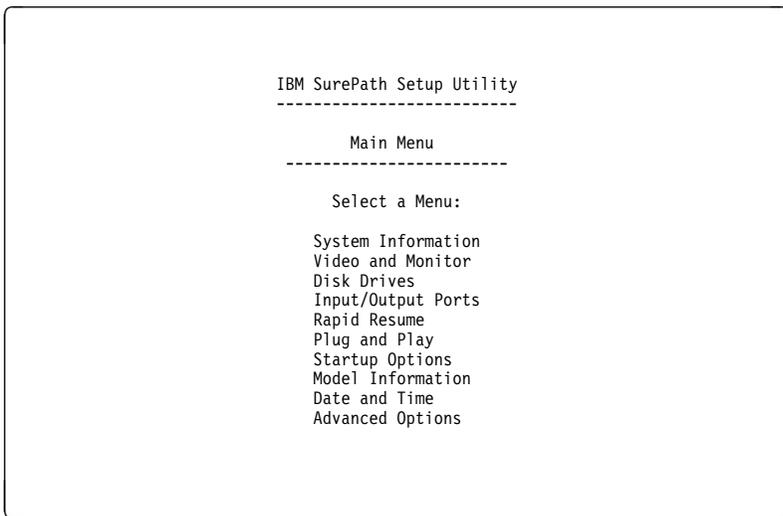

Figure 1-1. Setup Utility Screen
- If you have an error, the computer shows a popup window with an error code and description. Press **Enter** to get the Setup Utility screen (see Figure 1-1 on page 1-17).